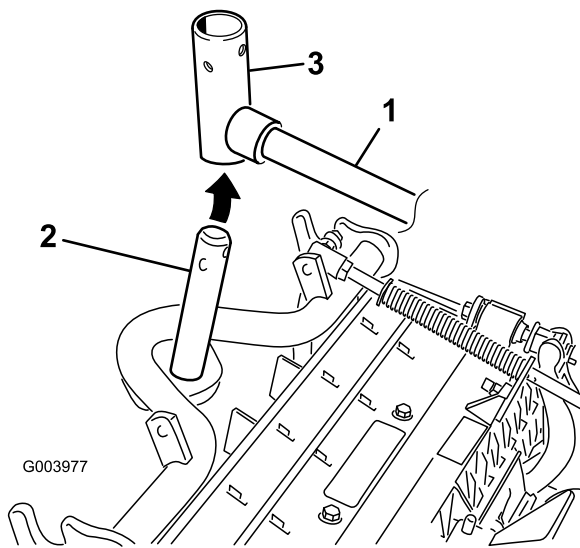

Figure 8
8. For the front cutting units, slide a cutting unit under the lift arm while inserting the carrier frame shaft up into the lift arm pivot yoke (Figure 8).
- B. Insert the lift arm yoke onto the carrier frame shaft (Figure 8).